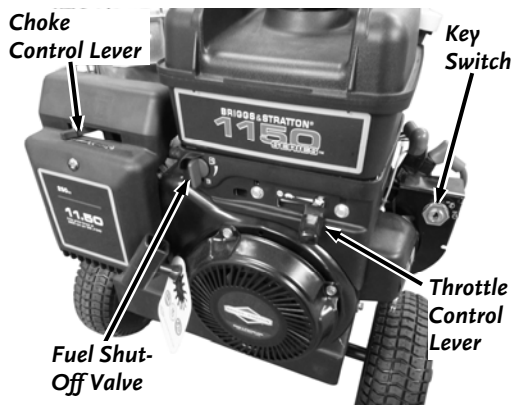

Figure 9
3. Rotate the Fuel Shut-Off Valve counter clockwise to its OPEN position (**Figure 9**).
Move the Throttle Control Lever all the way to the left past the SLOW (Turtle) position to the “STOP” position (manual start models) or turn the Key to the off position (electric start models) (**Figure 9**).